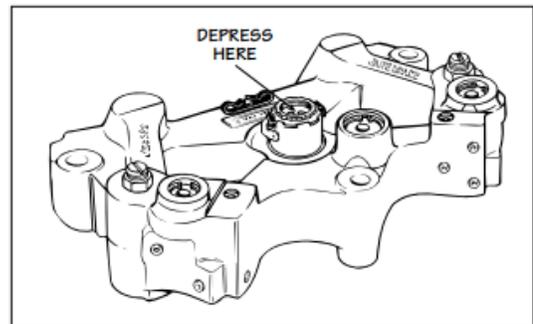

FIG. 17
2. Depress and release the engine brake solenoid disc several times to allow the housing to be filled with oil (see Fig. 17).